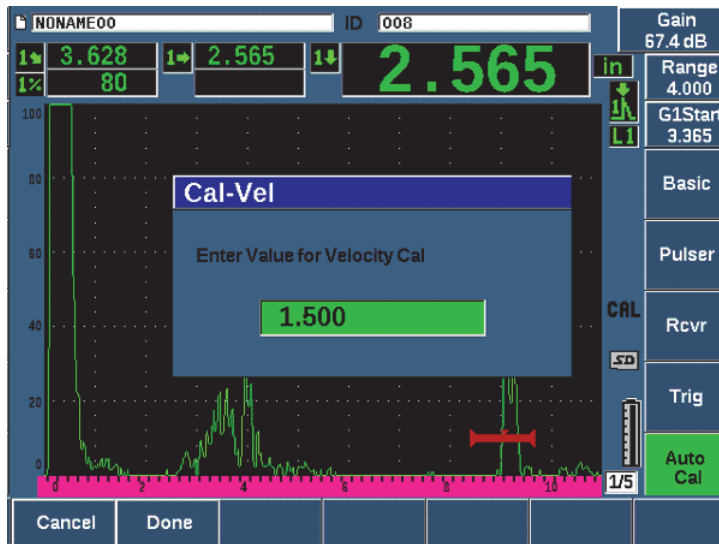

Figure 9-29 Entering the Velocity Cal thickness value
11. Adjust the value in the Cal-Vel dialog box to match the known thickness of the gated indication (see Figure 9-29 on page 192).